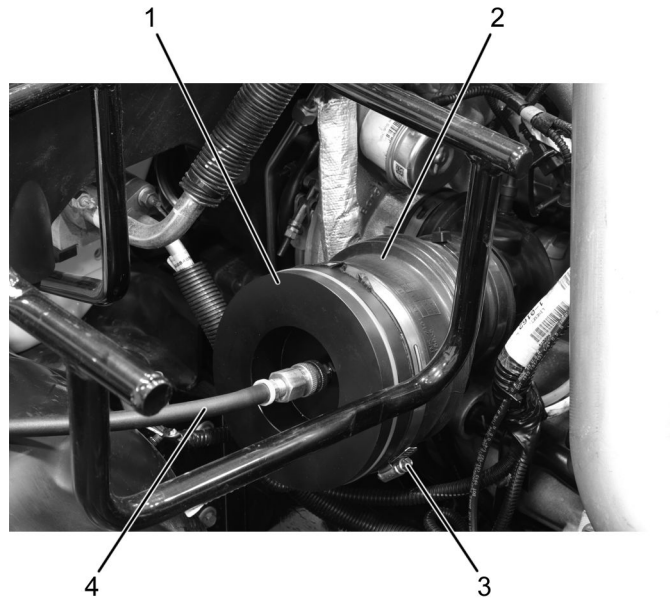

Figure 3. Navistar® Fixed Graduated Intake Adapter.
1. Install Navistar® fixed graduated intake adapter (Figure 3, Item 1) into air intake piping (Figure 3, Item 2) with clamp (Figure 3, Item 3) removed from air cleaner.
2. Connect Navistar® Leak Locator line (Figure 3, Item 4) to Navistar® fixed graduated intake adapter (Figure 3, Item 1).
1. Disconnect Navistar® Leak Locator line (Figure 3, Item 4) from Navistar® fixed graduated intake adapter (Figure 3, Item 1).
2. Remove clamp (Figure 3, Item 3) and Navistar® fixed graduated intake adapter (Figure 3, Item 1) from air intake piping (Figure 3, Item 2).